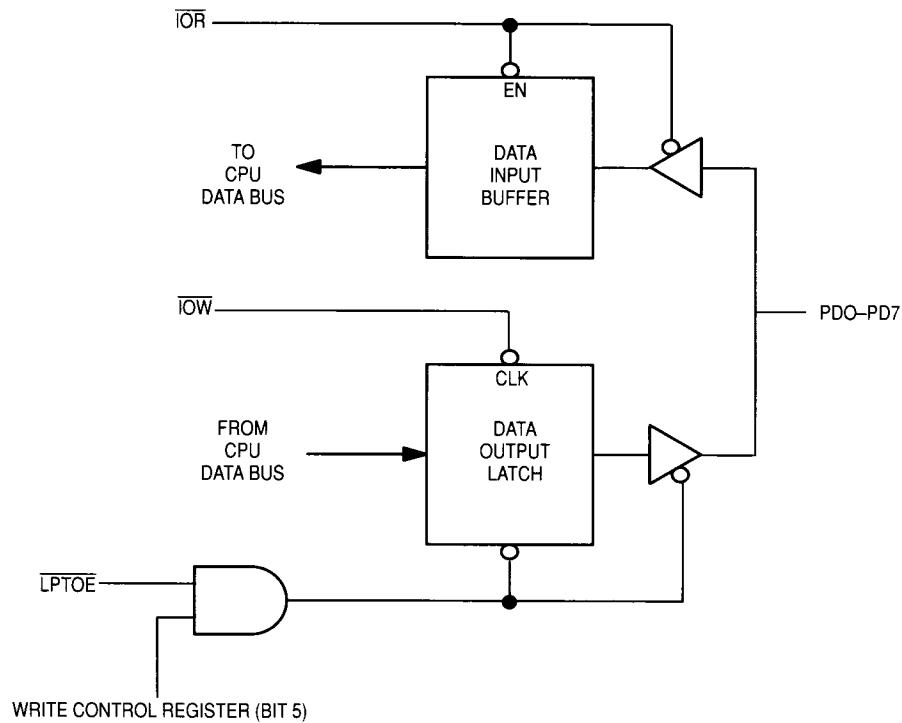

Figure 10. LPTOE Functional Block Diagram
The \overline{LPTOE} pin allows the printer bus (PD0–PD7) to be used as an input. In the typical application this pin is grounded so that the printer bus is only an output. When this pin is taken high the printer bus can be used to input data (e.g., from a scanner). See Figure 10 for the functional block diagram of \overline{LPTOE} . When \overline{LPTOE} goes high and bit 5 of the Write Control Register (WCR) is 1 then the output data latch is put in a three-stated mode and the data buffer is used to input data from the PD0–PD7 bus to the D0–D7 bus on the
microprocessor side of this device. When \overline{LPTOE} and bit 5 of WCR is high or 1 will the output buffer be three-stated. In any other combination the output buffer will be looped back into the input buffer. Table 18 summarizes this information. See also Figure 10 for more information.
- 5 Enables the printer port to be used as an input port. This bit defaults to 0, which in the configuration for output. See Figure 10 and Section 12.0 for more details.